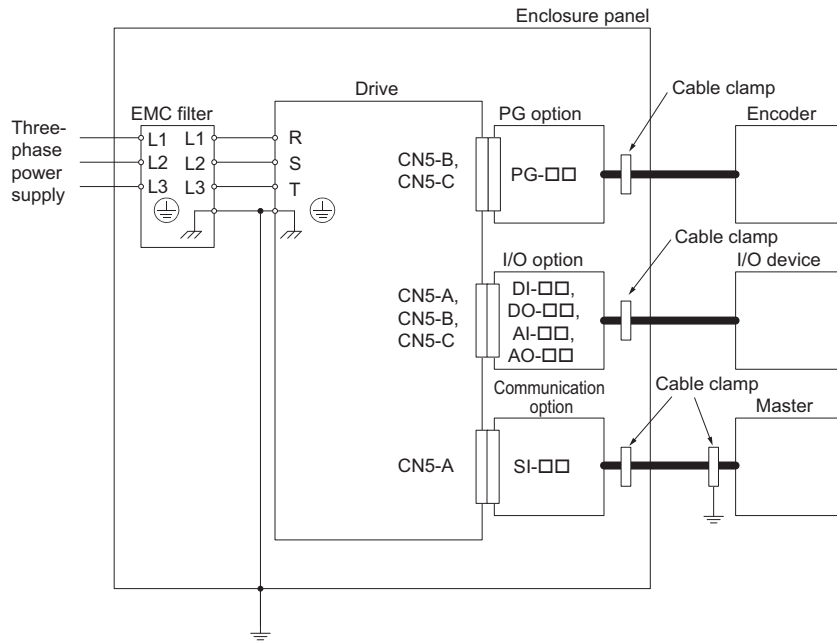

Figure 22 Option Installation for CE Compliance (PG-□□, DI-□□, DO-□□, AI-□□, AO-□□, SI-□□)
2. Keep wiring as short as possible and ground the largest possible surface area of the shield to the metal panel according to Figure 22.